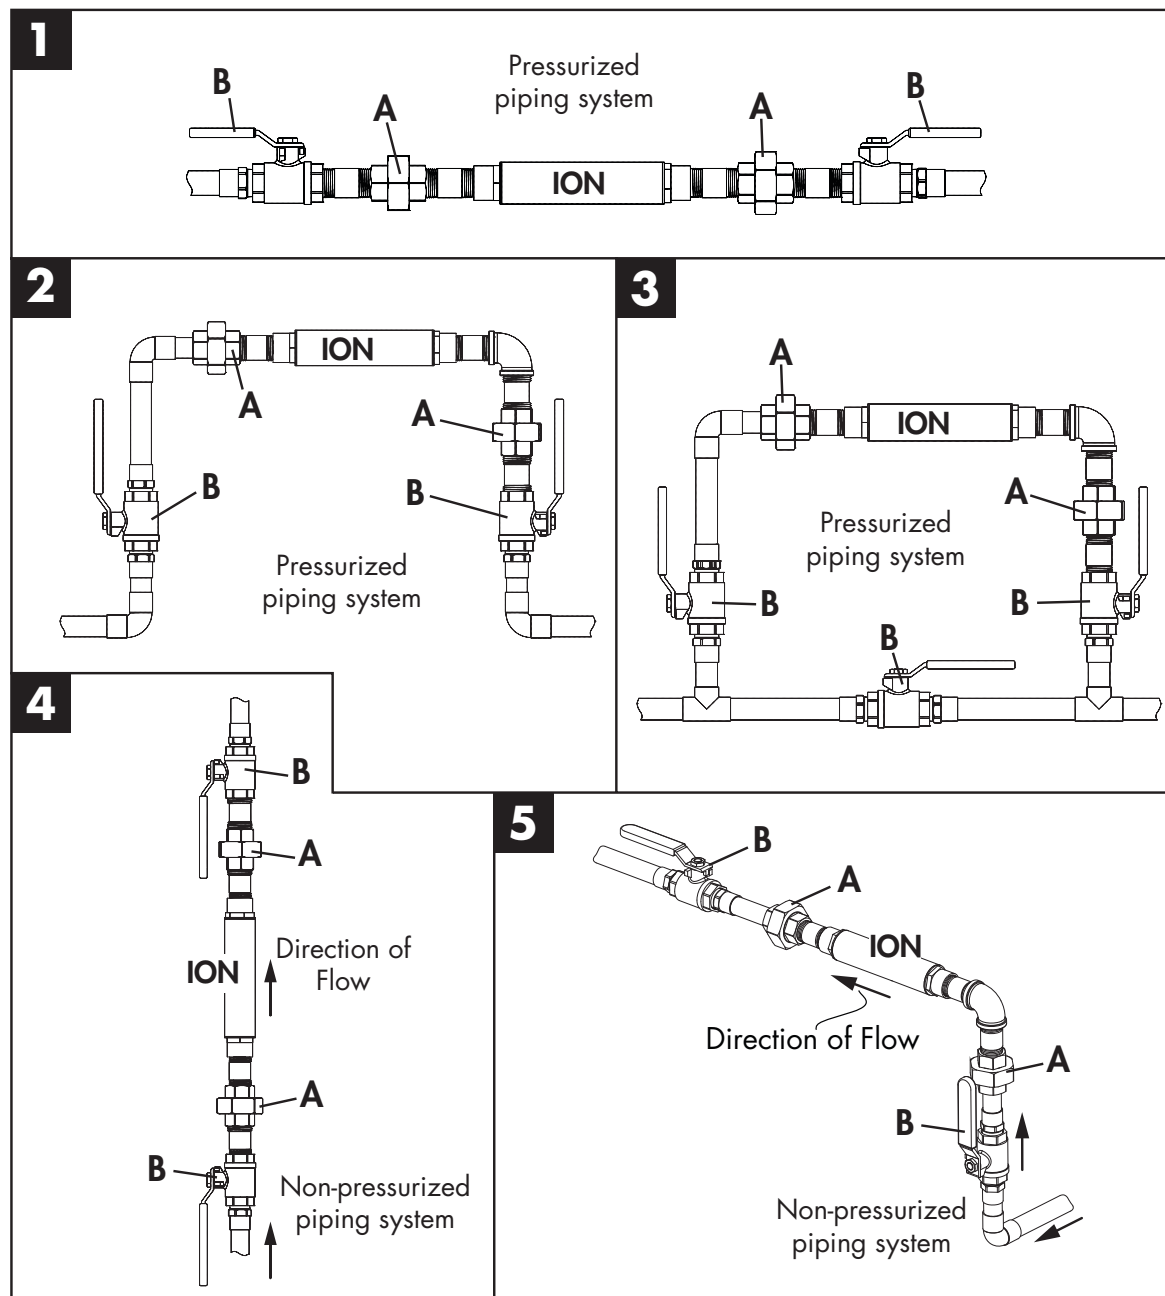

Fig. 3
Fig. 3 below illustrates five sample piping configurations. In all of the samples, note that unions (A) and shut-off valves (B) are provided for the easy removal of the ION for servicing. Samples 1-3 illustrate pressurized piping systems; samples 4 and 5 illustrate non-pressurized systems. The ION operates efficiently in either direction; however, note that in non-pressurized systems, the ION must be installed in a vertical position. This ensures the ION is submerged at all times due to the direction of water flow as shown in sample 4). Sample 5 shows an alternate configuration for a non-pressurized system.
1. Select an installation location in the water supply piping that is accessible for servicing. Refer to examples 1-5, in Fig. 3, on page 5 for suggested piping configurations.